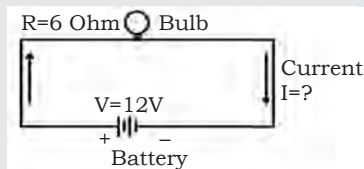

Fig. 1.56
14. Calculate the current 'I' flowing through the circuit in Fig. 1.56.